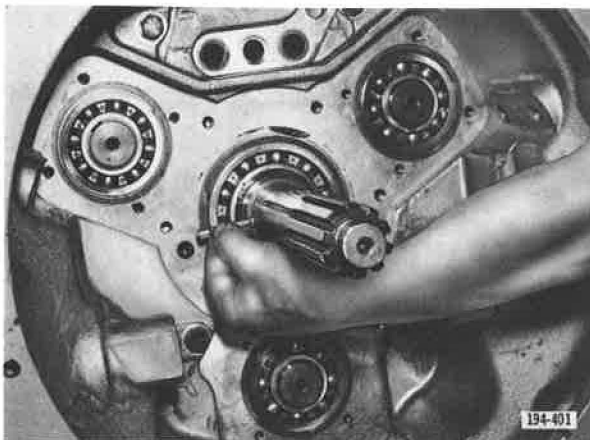

Figure 5-502. Installing Pump Vane
5. Place oil pump vane into its bore in main drive pinion. See Figure 5-502.